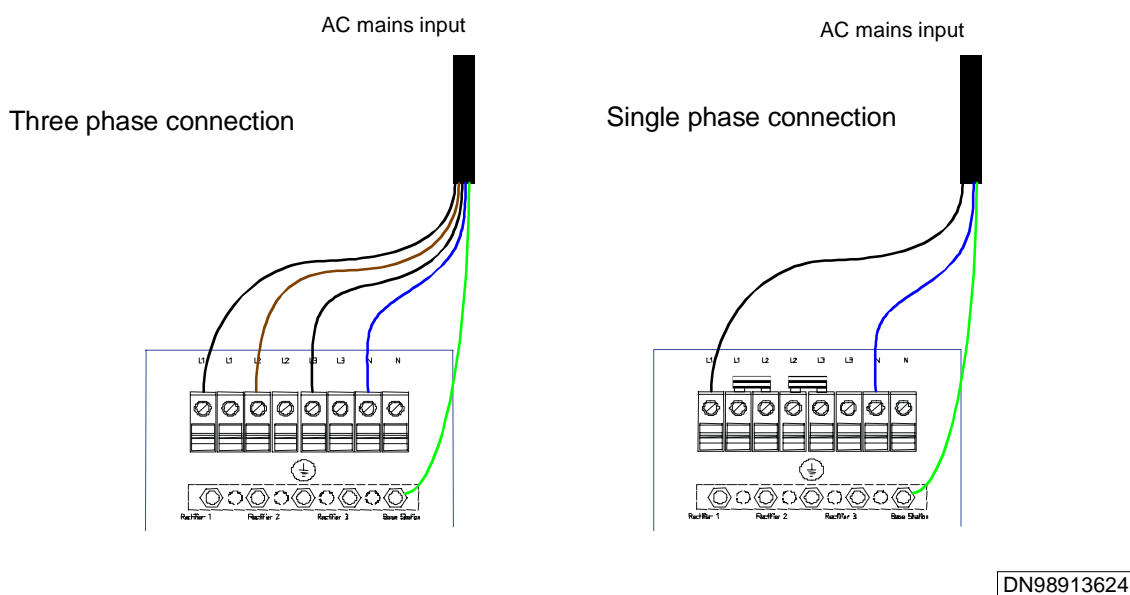
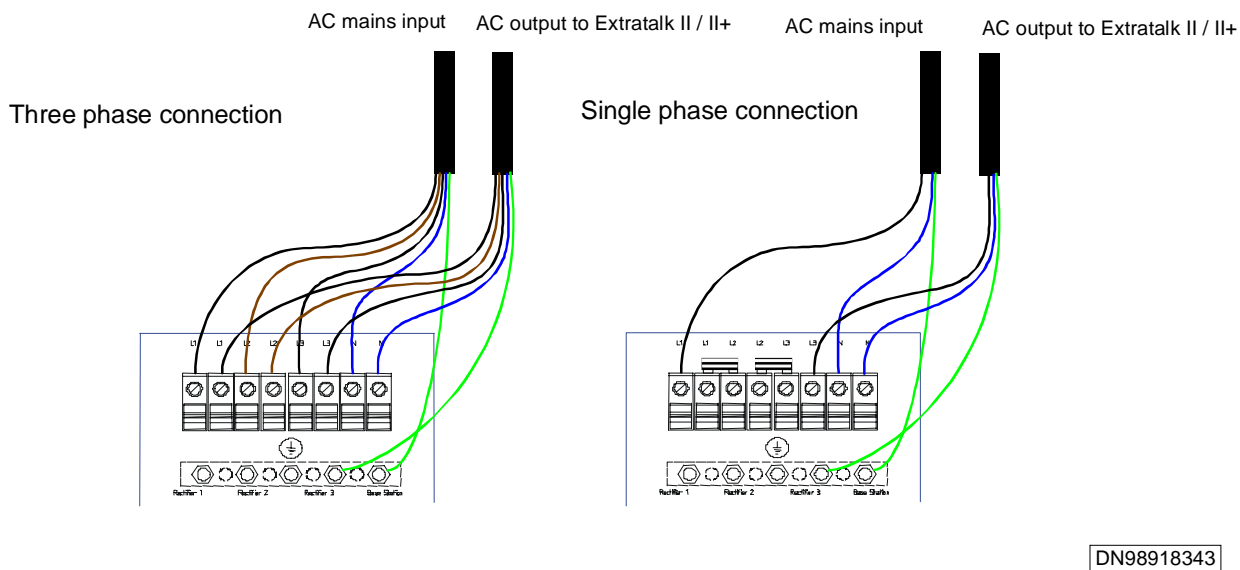

Figure 46 Extratalk II / II+ AC mains power connections
Figure 47 Extratalk II / II+ extension AC mains power and output connections
For the Extratalk II / II+, connect the wires to the rear connectors of the PDU as shown in Figure 46. For the Extratalk II / II+ extension, connect the wires to the rear connectors of the PDU as shown in Figure 47.
2. For the Extratalk II / II+, connect the wires to the rear of the PDU as shown in Figure 46. For the Extratalk II / II+ extension, connect the wires to the rear connectors of the PDU as shown in Figure 47.
The AC output cable from the Extratalk II / II+ extension to the Extratalk II / II+ has to be connected to the Extratalk II / II+ extension PDU AC connection block as shown in Figure 47. The PE-wire (yellow/green) is already equipped with a ring tag and is to be fitted to the grounding bolt shown in Figure 47. The other end of the cable is connected to the Extratalk II / II+ PDU as per the AC mains input, as shown in Figure 46.